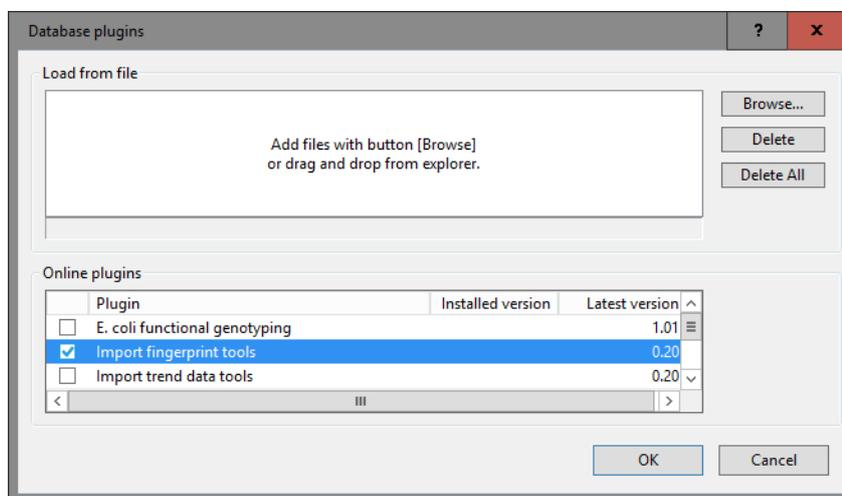

Figure 2: Adding the *Import fingerprint tools plugin*.
3. Check the box that corresponds to the *Import fingerprint tools plugin* (see Figure 2) and press <OK>.